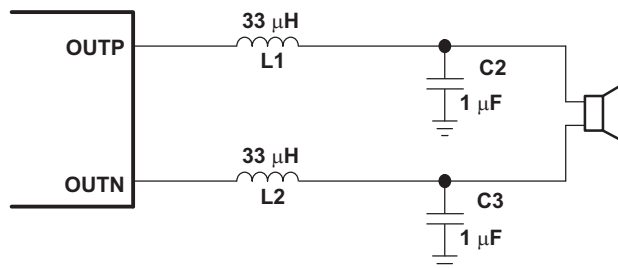
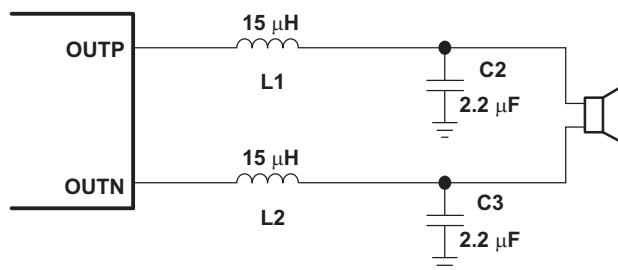
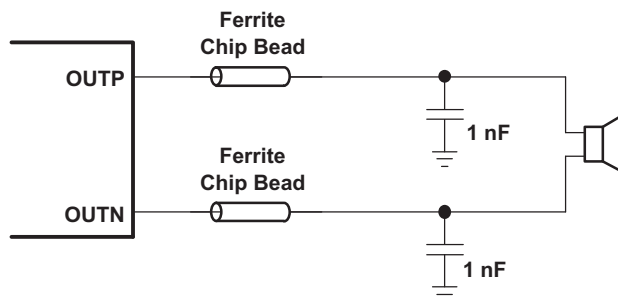
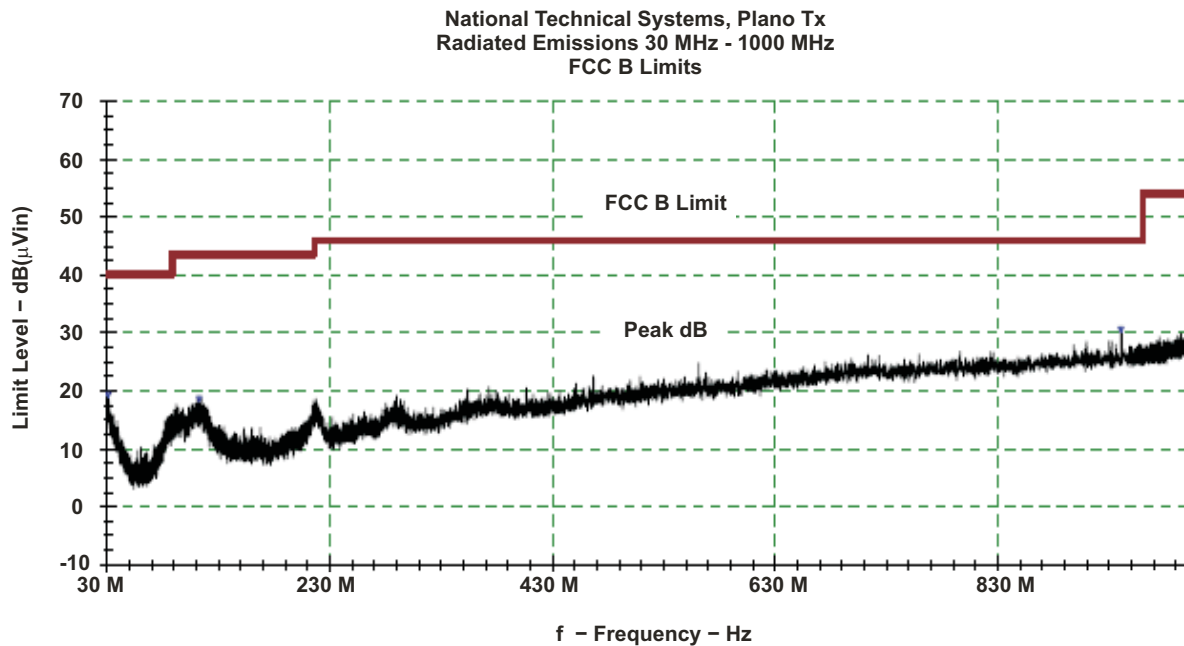

Figure 27. Typical LC Output Filter, Cutoff Frequency of 28 kHz, Speaker Impedance = 8 Ω
Figure 28. Typical LC Output Filter, Cutoff Frequency of 28 kHz, Speaker Impedance = 4 Ω
Figure 29. Typical Ferrite Chip Bead Filter (Chip Bead Example: Fair-Rite 2512067007Y3)
Figure 30. Radiated Emissions Prescan 30 MHz - 1000 MHz
Using the LC filter in Figure 27, the TPA3101D2 EVM passed the FCC Part 15 Class B radiated emissions test with 21 inch speaker wires. Quasi-peak measurements were taken for the 4 standard test configurations, and the TPA3101D2 EVM passed with at least 14-dB margin. A plot of the peak measurement for the horizontal rear configuration is shown in Figure 30.
- Output filter—The ferrite EMI filter (Figure 29) should be placed as close to the output terminals as possible for the best EMI performance. The LC filter (Figure 27 and Figure 28) should be placed close to the outputs. The capacitors used in both the ferrite and LC filters should be grounded to power ground. If both filters are used, the LC filter should be placed first, following the outputs.